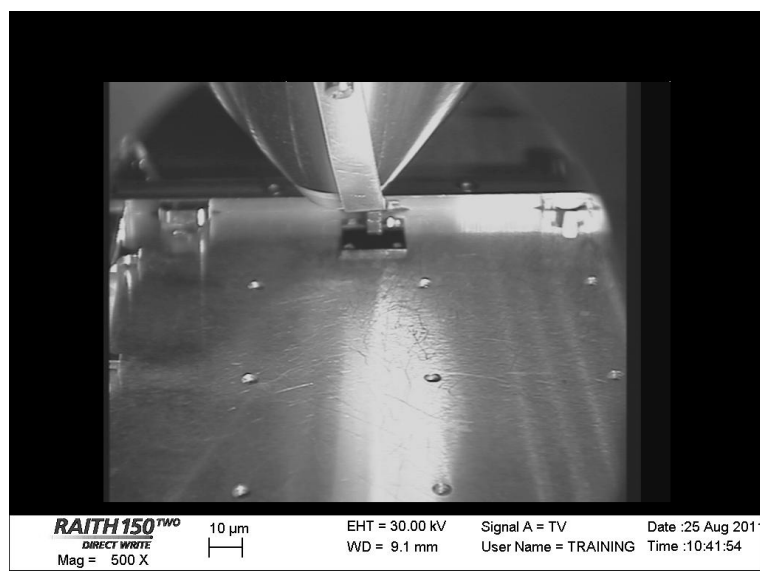

Figure 14 Camera image of the chamber with sample loaded and column on
12. At this point, the SEM window will show the updated position of the stage with respect to the objective lens, and other column data as shown in the white data zone at the bottom of the camera image (Fig. 14). Clicking on the various parameters in the data zone (e.g., magnification, voltage, working distance etc) allows the user to change values. These values can be changed using the SEM software controls as well.